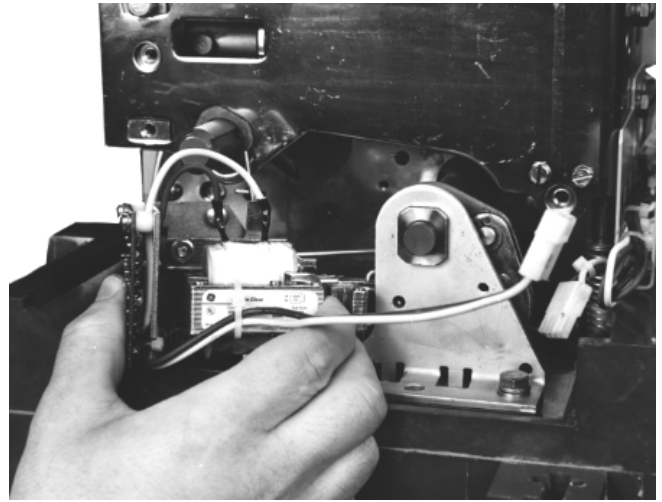

Figure 3. Installation of the Remote Close under the breaker spring frame.
7. While holding the charge interlock rod of the breaker down against the midcover, move the Remote Close under the spring frame until it rests against the side frame of the breaker mechanism, as illustrated in Figure 3. Slide the Remote Close under the breaker's torque tube **until the Remote Close engages the closing lever projecting through the breaker side frame.**